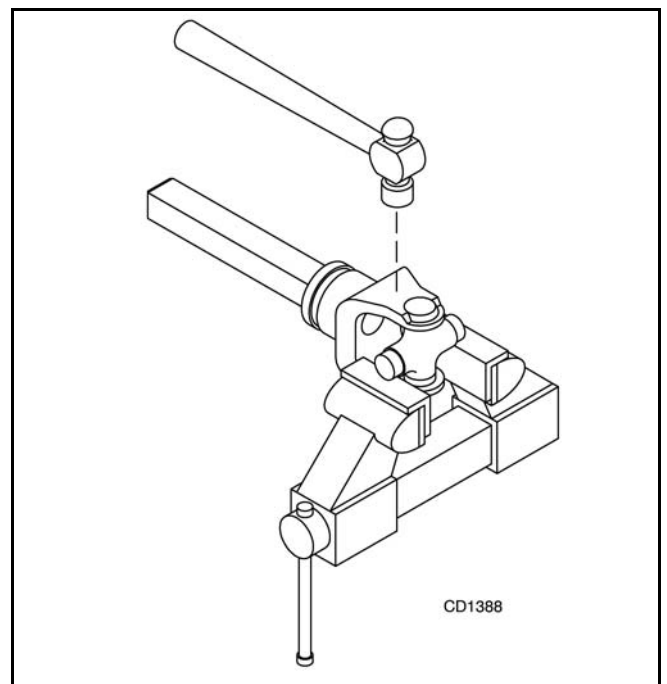

Figure 21.
4. Place universal cross in vise as shown in Figure 21 and tap on yoke to remove cup. Repeat step three for final removal. Drive remaining cup out with a drift and hammer.